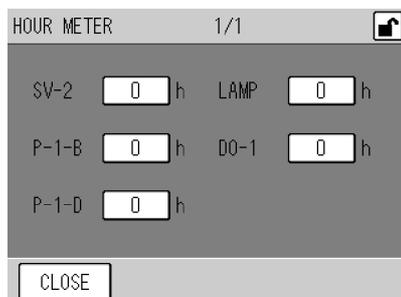

Fig. 60 HOUR METER screen
- [HOUR METER]: Displays the HOUR METER screen (Fig. 60 on page 49).